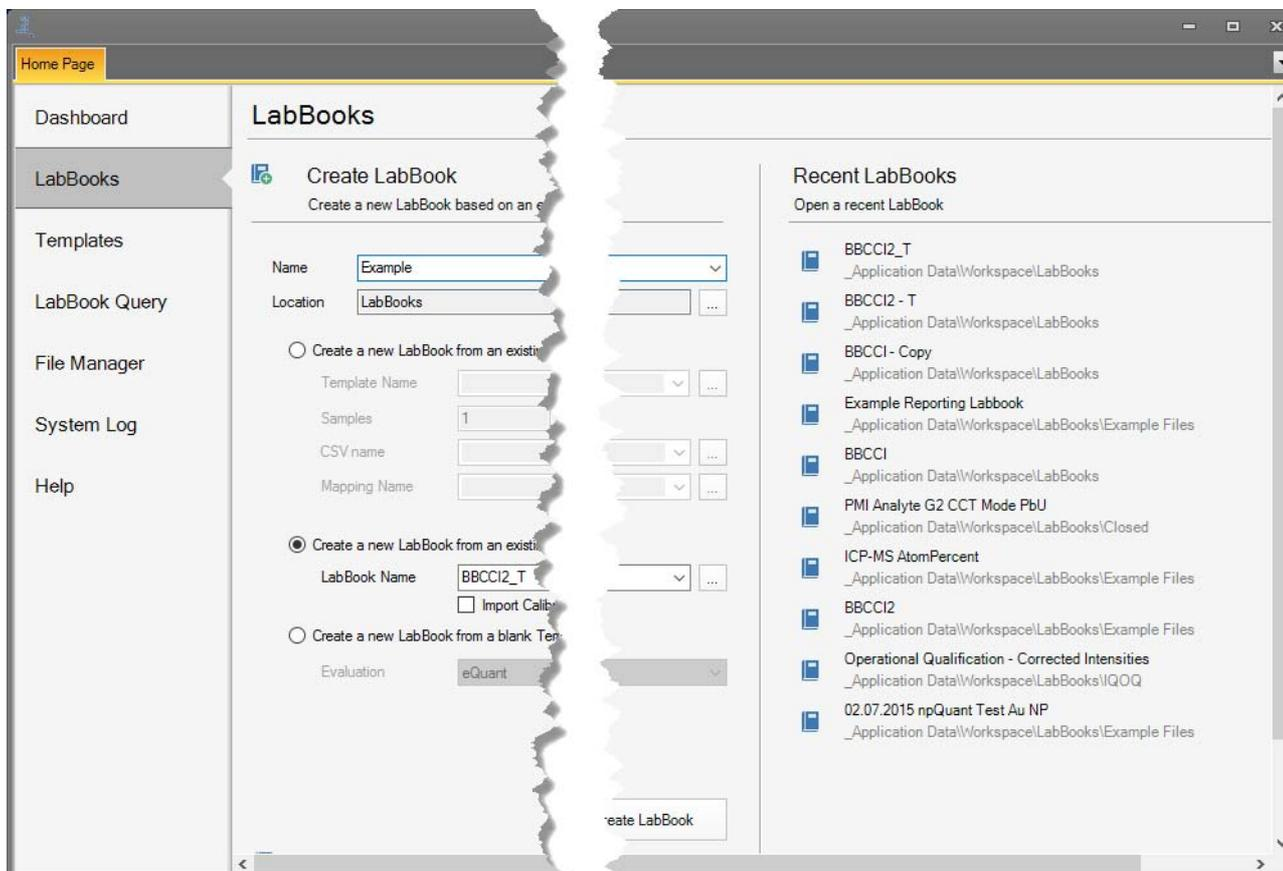

Figure 4-28. Recent LabBooks
1. On the LabBooks page, click a LabBook in the **Recent LabBooks** section, see Figure 4-28.